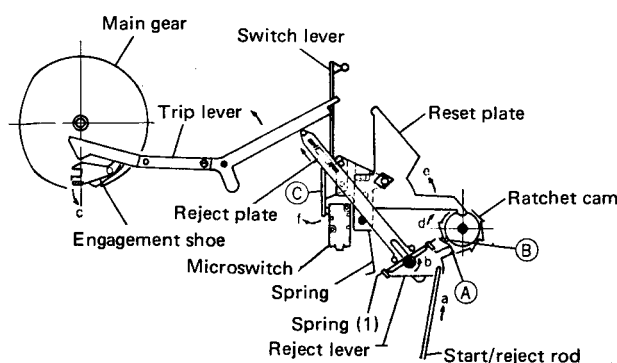

Fig. 4
As shown in Fig. 4, when the start/reject rod is pushed in the direction of arrow (a) the reject lever connected to the rod turns in the direction of arrow (b). At this revolution, the reject plate is pushed by the spring (1), and the engagement shoe is moved in the direction of arrow (c), beginning the starting cycle operation.
When the START/REJECT operation lever is pulled toward "START", the mechanism operates as shown in Fig. 4 to power the platter and carry the tonearm to the specified position on the record surface.